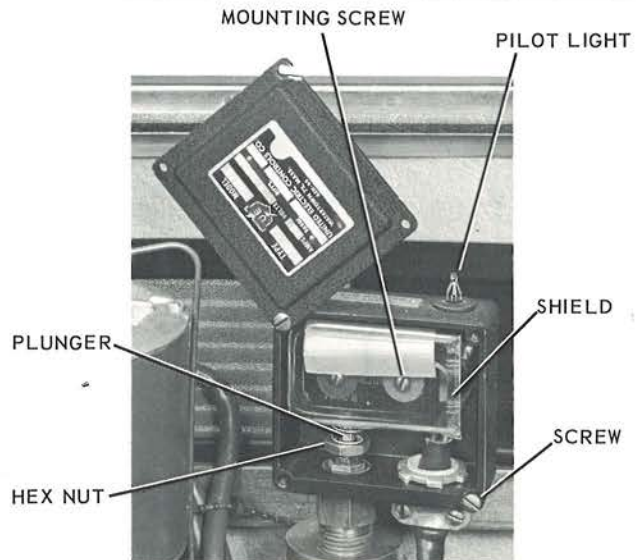

FIGURE 39 DEVELOPER THERMOSTAT
b. Loosen the SCREW, figure 39, and swing the cover upward.